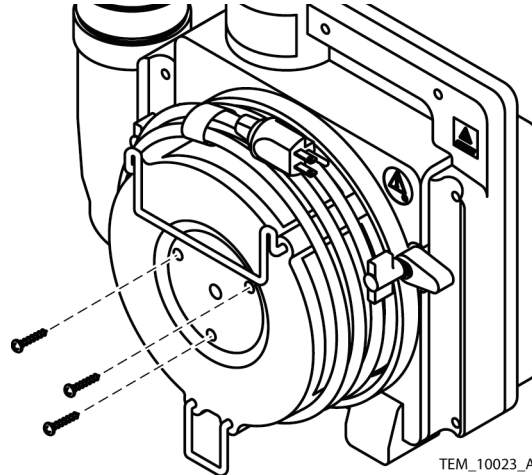

Figure 83. Filter Cover Installation
52. Install the filter cover assembly on the rear cover assembly. Tighten the screws to 8 to 12 in/lbs (20 to 30 cm/kg). See Figure 83.